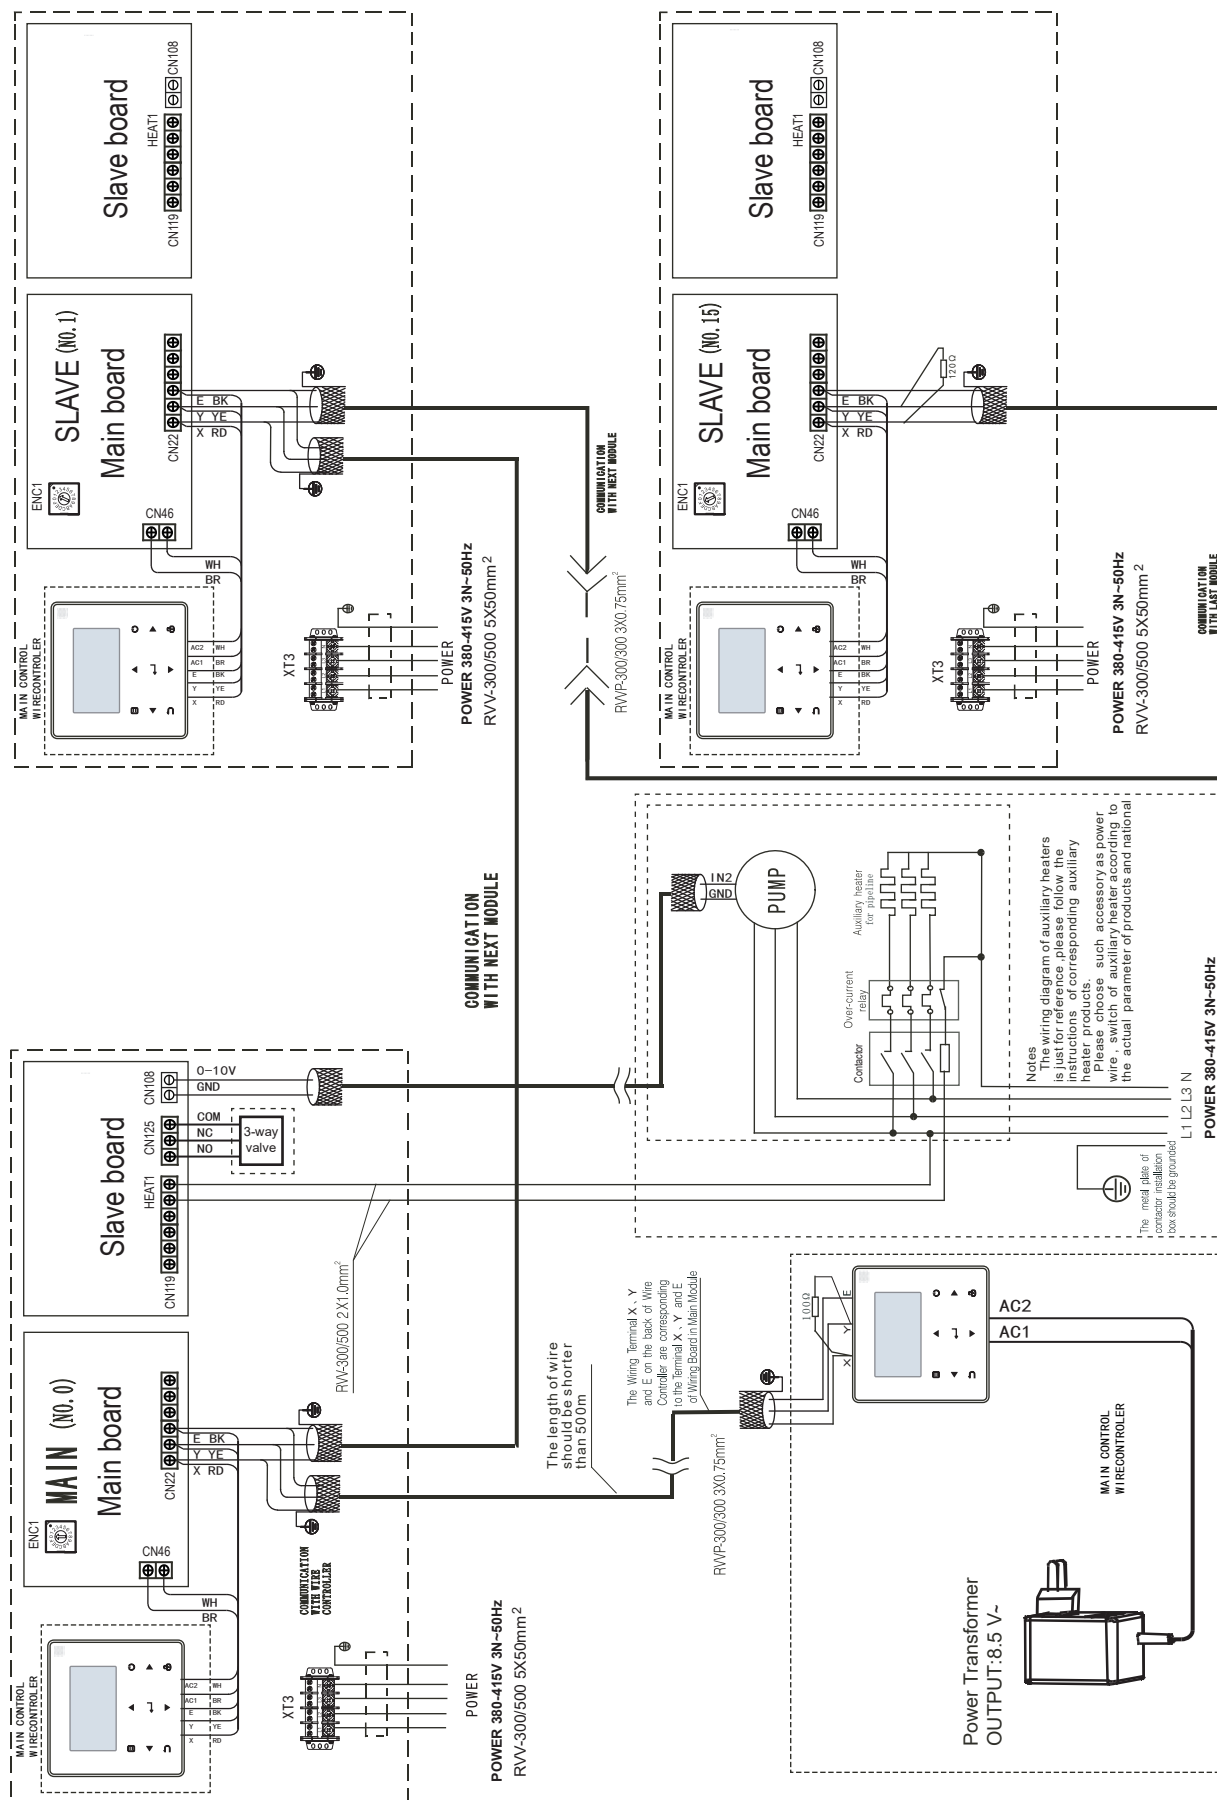

Fig. 8-18 Networking communication schematic of main unit and auxiliary unit for 110KW
c) Units must with a main unit controls (Please see Fig. 8-18 for the controls wiring diagram).